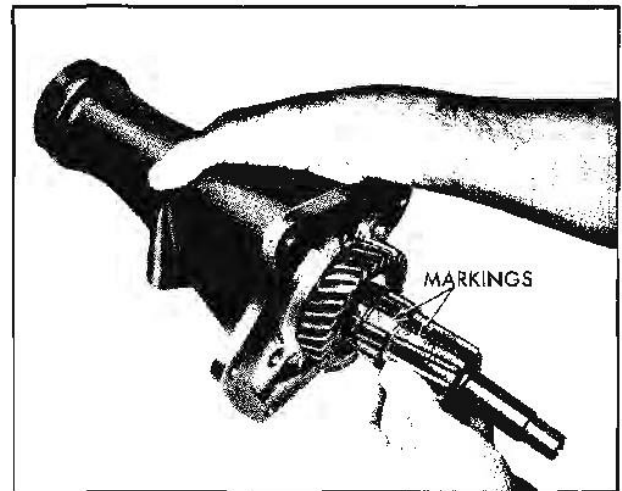

Fig. 7-35 Alignment of Synchronizer Clutch Splines on Mainshaft and Second Speed Gear
3. Align clutch splines on mainshaft with clutch splines on second speed gear so as to receive the two inner lugs of synchronizing ring of second and third speed clutch. Mark for identification (Fig. 7-35).